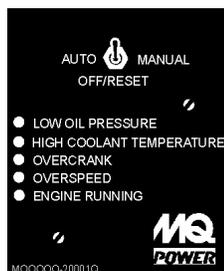

Figure 9. MPEC Module
11. **MPEC – Microprocessor Engine Control Module** – (MPEC) has a vertical row of status LED's (Figure 9), that when lit, indicate that a engine malfunction (fault), has been detected. When a fault has been detected the MPEC will evaluate the fault and all major faults will shutdown the generator.